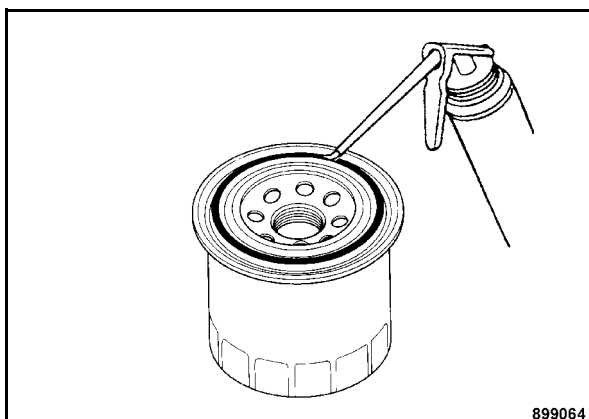

Fig. 80
- Apply some clean oil to the rubber seal of the new filter cartridge (Fig. 80).